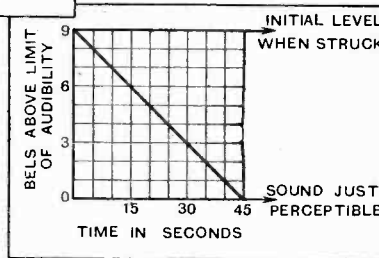

Fig. 2.—Chart which converts a tuning-fork into an instrument for measuring the power level of a loud speaker
Now suppose we have a tuning-fork of suitable frequency, say, 500 cycles, and that we know (1) the rate at which its level falls per second, (2) the time required for the fork to become inaudible in a quiet room (the fork being held close to the ear), then we can draw a calibration curve as in Fig. 2.
The power level at any point in a room due to a loud speaker can now be immediately found. Strike the fork on the heel of the boot (it is found that the energy given in this way does not vary by more than 5 per cent. from one trial to another) and count seconds till the music sounds just as loud as the fork held close to the ear. If this time is, say, 10 seconds, then Fig. 2 shows